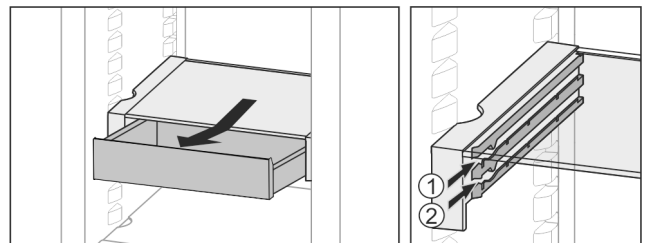

Fig. 31
- ▶ Slide back at the height you want Fig. 31 (1) or Fig. 31 (2).